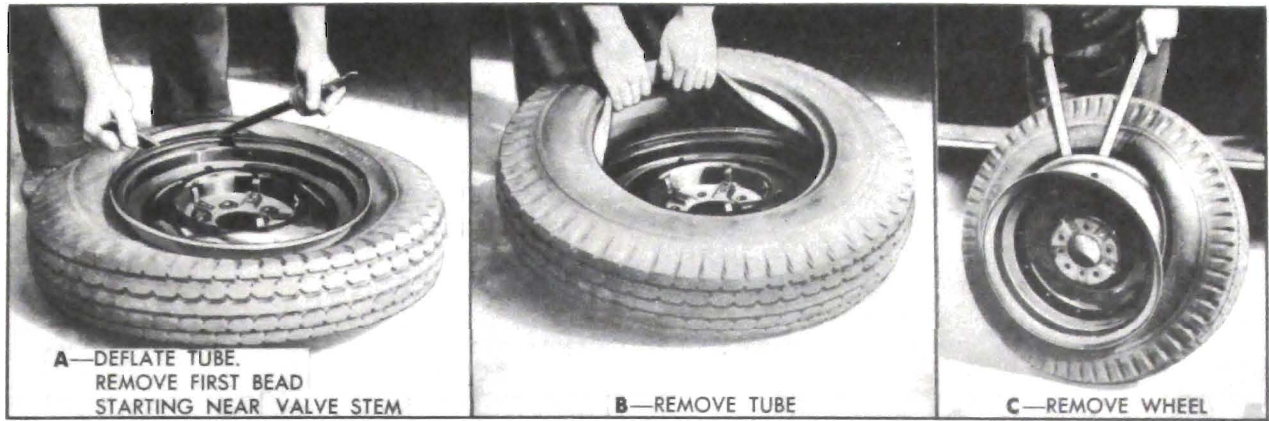

Figure 6-28—Removing Tire and Tube
1. Deflate tube completely. Loosen both beads from rim ledges, using tool if necessary. Insert two tire tools about 8 inches apart between bead and rim flange near valve stem and pry short lengths of bead over flange. See figure 6-28, view A. Then, leaving one tool in position, follow around rim with the other tool, taking small bites, to remove remainder of bead.
2. Remove inner tube. See figure 6-28, view B. Stand wheel in upright position with bead in well of rim at bottom. Insert tool between bead and rim flange at top side of wheel and pry wheel out of tire. See figure 6-28, view C